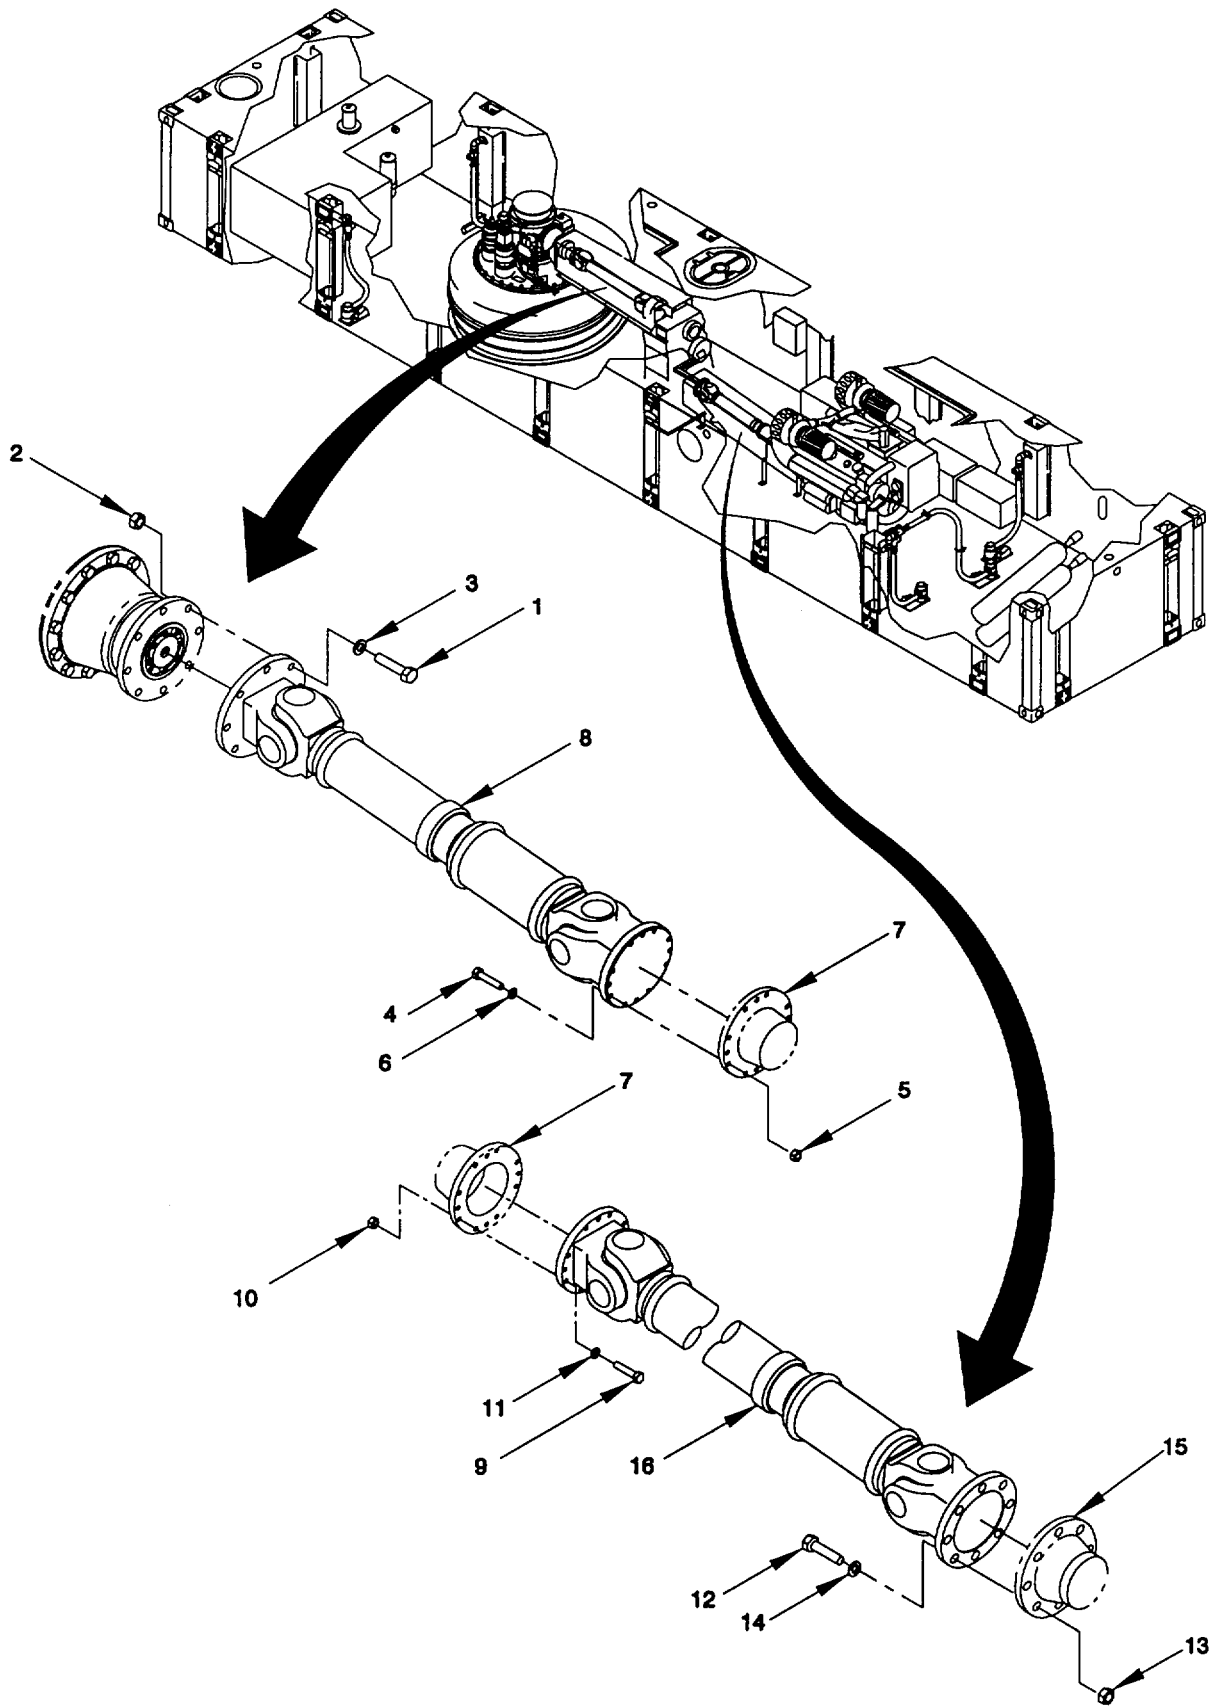

Figure 3-2. Drive Shafts, Remove/Install.
- a. Remove. (figure 3-2)
- (8) Remove drive shaft (16) through exhaust plenum deck opening. Support drive shaft using a sling attached to an appropriate lifting device above deck.
- b. *Install.* (figure 3-2)
- (1) Support new transfer-case-to-diesel-engine drive shaft (16) using an appropriate lifting device. Guide drive shaft through exhaust plenum deck opening and lower below deck.
- (2) Apply adhesive to drive shaft (16) flanges at each end.
- (3) Roll drive shaft (16) into position and support diesel engine end of drive shaft with an appropriate lifting device. Slowly raise diesel engine end of drive shaft to mate with diesel engine flange (15). Remove all traces of rust inhibitor, dirt and grease from the flange surfaces. Arrows on drive shaft (16) and drive shaft flange (15) must face each other.
- (4) Replace capscrews (12), lockwashers (14) and hex nuts (13) securing drive shaft (16) to diesel engine flange (15). Torque capscrews to 460 ft.-lbs.
- (5) Using appropriate hoisting device, slowly raise transfer case end of drive shaft (16) to mate with transfer case flange.
- (6) Replace capscrews (9), lockwashers (11) and hex nuts (10) securing drive shaft (16) to transfer case. Torque capscrews (9) to 55 ft.-lbs.
- (7) Support new pump-jet-to-transfer-case drive shaft (8) using a sling attached to a crane. Guide drive shaft through exhaust plenum deck opening and lower below deck onto appropriate blocking material.
- (8) Apply adhesive to drive shaft (8) flanges at each end.
- (9) Roll drive shaft (8) into position and support pump-jet end of drive shaft using an appropriate lifting device and sling. Slowly raise pump-jet end of drive shaft (8) to mate with pump-jet disk. Remove all traces of rust inhibitor, dirt and grease from the disk surfaces. Arrows on shaft (8) and disk must face each other.
- (10) Replace capscrews (4), lockwashers (6) and hex nuts (5), supporting drive shaft (8) to transfer case. Torque capscrews (5) to 55 ft.-lbs.